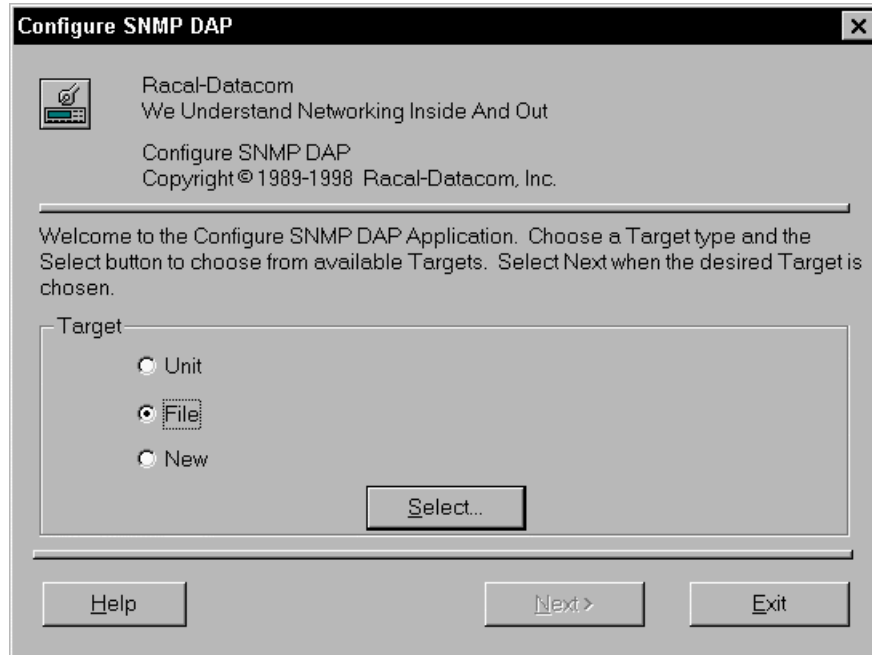

Figure 4-1. Select a Target Screen
The Select a Target screen appears. (See Figure 4-1.)
1. From the Select a Target screen (Figure 4-1), select **New** and then click the **Next** button.
To open an existing configuration file, follow these steps from the Select a Target screen (Figure 4-1):
1. From the Select a Target screen (Figure 4-1), select Unit and then click the Select button.